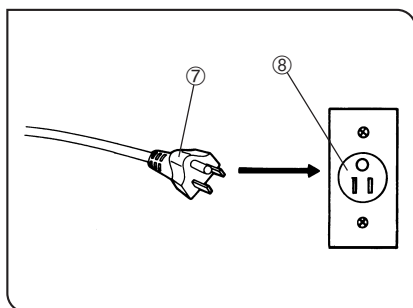

Fig. 23
3. Connect the power cord plug ⑦ to a wall outlet ⑧. (Fig. 23)